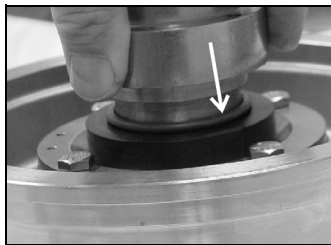

Figure 27 - Install O-ring Using Spring Retainer.
2. Lubricate and slide seal assembly o-ring onto impeller shaft. (Use the spring retainer as a tool to push o-ring into rotary seal.) (Figure 27).